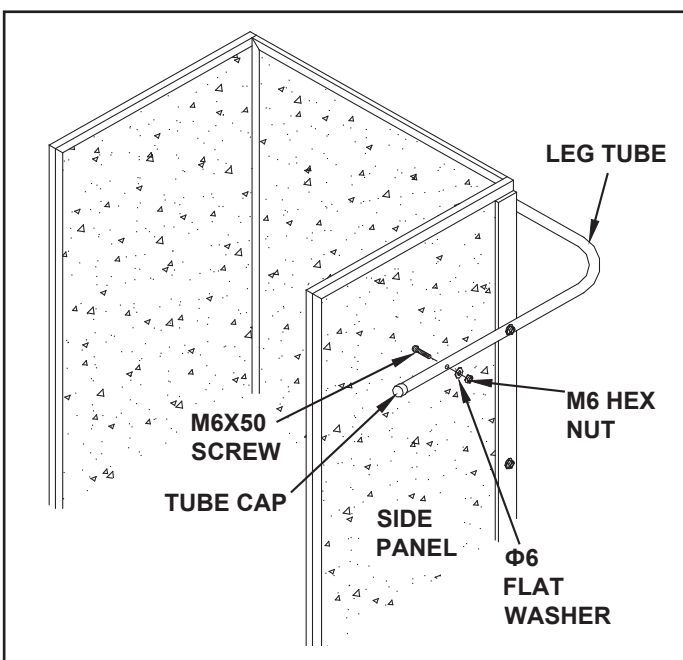

FIGURE 10
16. Stand cart up on its front end again. Place tube caps on leg tube and assemble the leg tube as shown in figure 10, using four M6 x 50 screws through side panels and leg tube. Secure with flat washers and hex nuts. See figure 10.